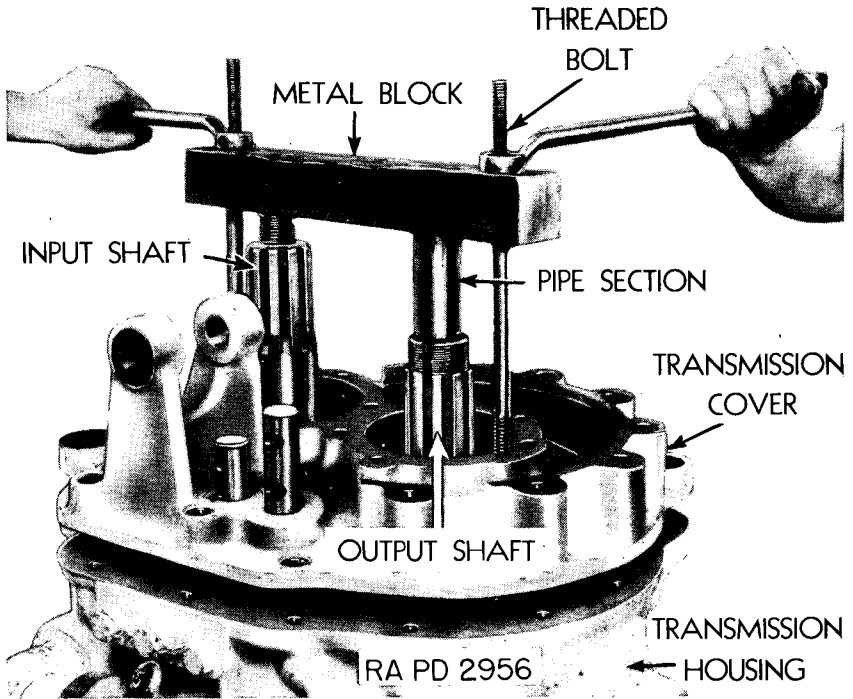

FIGURE 25 — RAISING TRANSMISSION COVER
(9) Turn transmission to rest on pinion gear end. To prevent gears and shafts from dropping out while transmission is being dismantled, it should be turned so that the pinion gear end is down.
(10) Remove transmission cover (*fig. 25*). Remove the two large bolts ($1\frac{7}{8}$ -in. wrench) on opposite sides of transmission case. Remove the eight bolts ($\frac{3}{4}$ -in. wrench) from cover around input and output shafts. The cover is now ready to be removed. A special tool (*fig. 25*) will be useful in lifting cover since it is important to raise it evenly to prevent binding. A block of metal two inches thick is used, with two $\frac{1}{2}$ -in. drilled holes $13\frac{1}{2}$ inches apart. Two $\frac{7}{8}$ -in. rods, threaded for several inches at each end are inserted in these holes, with a nut at top above block. A pipe or block, four inches long, must be placed upon output shaft to build it up to input shaft level. The block is laid across input shaft and over pipe section on output shaft, with lower ends of rods screwed into bolt holes in transmission cover. Turning nuts above block will raise cover. The nuts should be turned alternately so that cover is raised evenly.